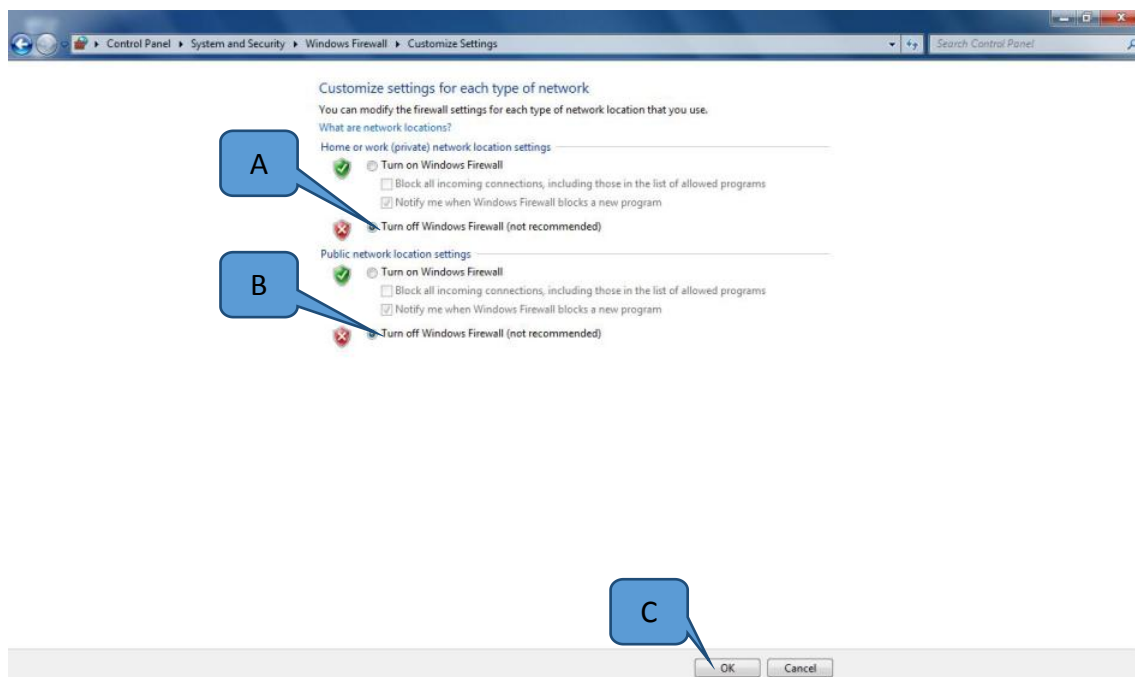

Figure 9 Window firewall
10. Select “Turn off Window Firewall” for “Home or work (private) and Public Network setting”. Click “OK” once done set as Figure 9.